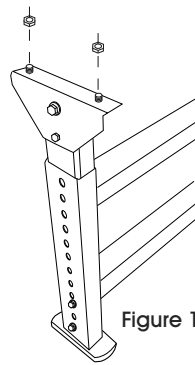

Figure 1
1. Hardware is pre-screwed into the tops of the H-Stands. Remove the hardware. (See Figure 1)